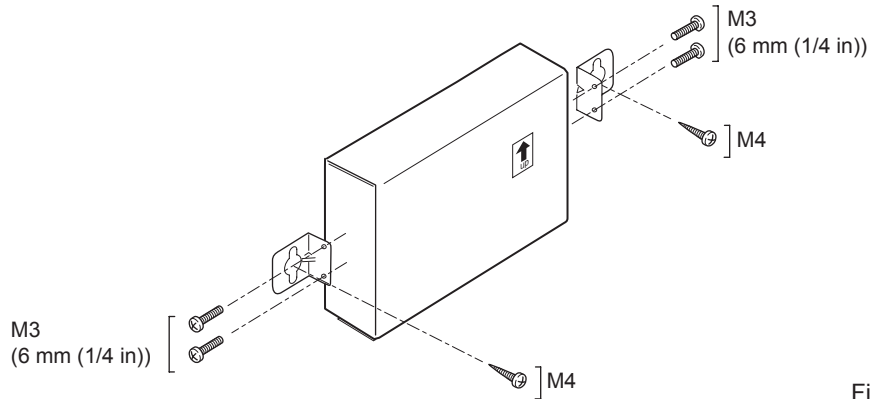

Fig. 7-3
2. Attach the supplied two L-fittings to the AHC ADAPTER with the supplied M3 screws. (Fig. 7-3)
3. Properly install the AHC ADAPTER with the M4 screws (field-supplied) horizontally inside the metal control box. (Fig. 7-3)